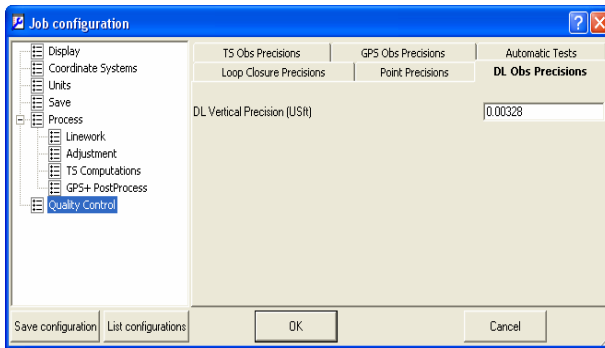

Figure 2-34. Job Configuration – DL Obs Tab
- The *DL Obs Precisions* tab sets precisions for digital level measurements (Figure 2-34). If the values of Ht Residual resulted from a net adjustment—with Rejection Criterion-By Control—are worse than the values set in this tab, the observations are highlighted in red on the *DL Obs* tab and Reports. These observations will no be used in the final adjustment of the net.
- The *Automatic Tests* tab sets which of the quality control tests to run instantly in the background and mark points and observations that fail the QC test in red (Figure 2-34 on page 2-22). Clearing any of the checkboxes will also clear red marks and textual descriptions on the QC tabs of the *Property* dialog boxes. When selecting a test, the test will first check existing data, then continue to run in the background. The following tests are available: